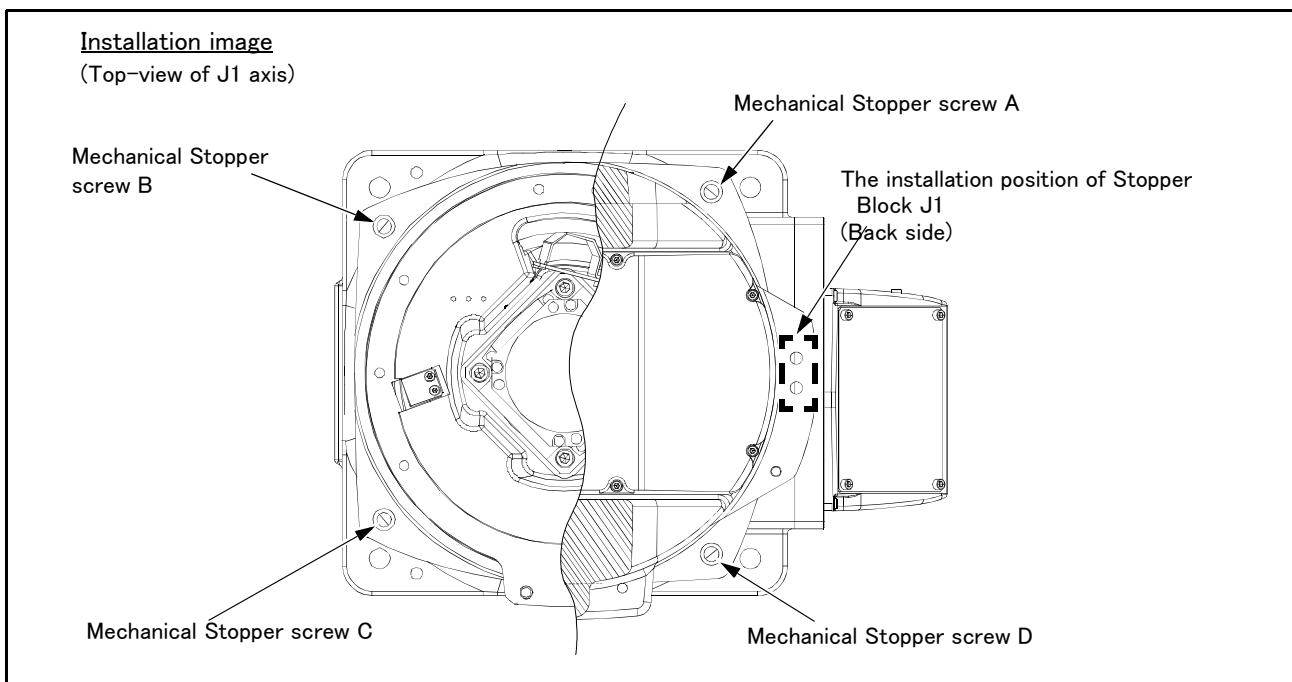

Fig.3-4 : Installation image of J1axis operating range change option (RV-13FR series)
Note1)Symbol: “(A)” – “(D)” in the Table 3-11 is related with the symbol of “Fig. 3-4: Installation image of J1axis operating range change option (RV-13FR series)”.
4) Install the <3> Mechanical Stopper screw. Install the <3> attached Mechanical Stopper screw to the needed point with referring to Table 3-11 and Fig. 3-4.